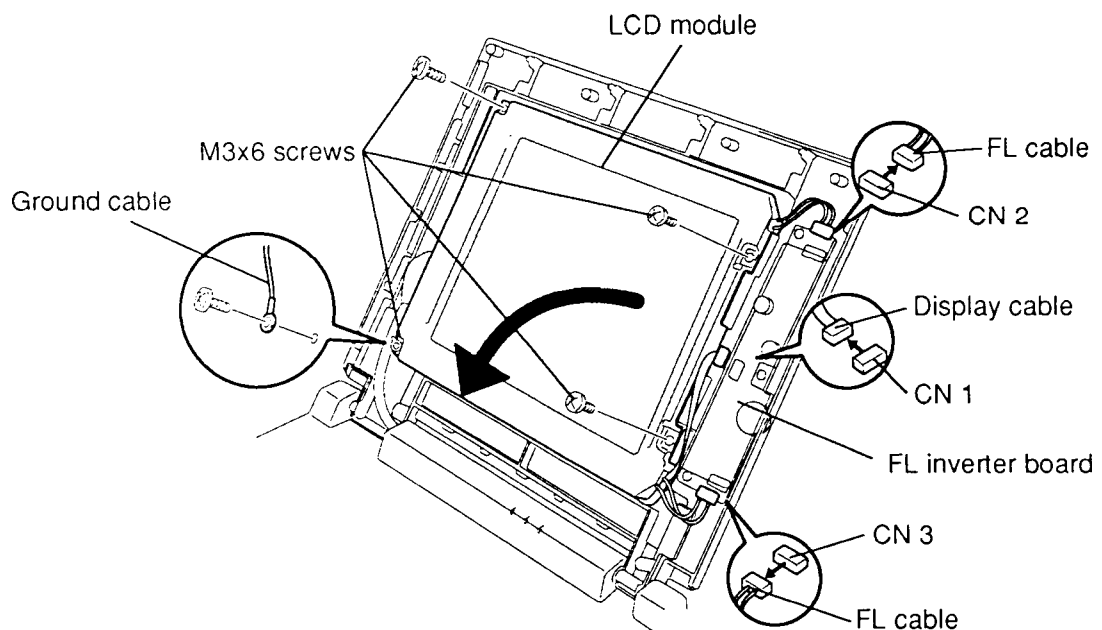

Figure 4-38 Removing the LCD Module
To remove the computer's LCD module, follow the steps below and refer to Figures 4-38 and 4-39.
3. Disconnect the **two FL cables** from **CN2** and **CN3**, and the **display cable** from **CN1** on the **FL inverter board** (Figure 4-38).
4. Remove the **four M3x6 screws** securing the **LCD module** to the LCD cover (Figure 4-38). Note the **ground cable** secured by the bottom left screw.
5. Carefully rotate the **LCD module** forward (Figure 4-38).
To install the LCD module, follow the steps below and refer to Figures 4-38 and 4-39.
2. Set the **LCD module** in the LCD cover and secure it with **four M3x6 screws**, making sure to secure the **ground cable** with the bottom left screw (Figure 4-38).
3. Connect the **FL cables** to **CN 2** and **CN 3** and the display cable to **CN 1** on the **FL inverter board**. (Figure 4-38).